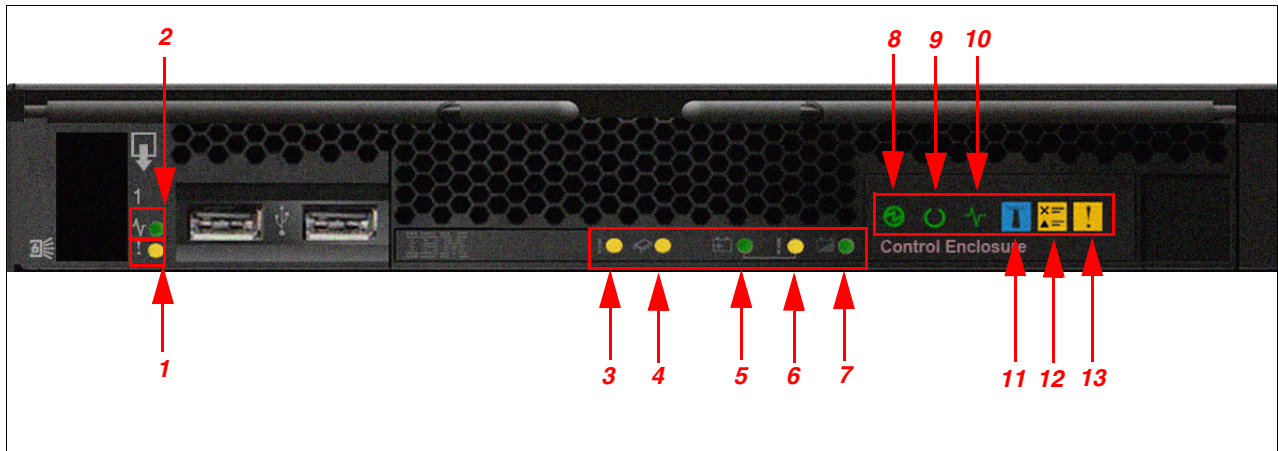

Figure 13-2 Node canister LED layout
IBM Flex System V7000 Storage Node has indicators or light-emitting diodes (LEDs) that provide the status of the various components to help you determine the system state as well as appropriate actions to take to resolve the issues. See Figure 13-2 for a description of the various LED states that you might observe.
1. Start by considering the state of the power LED **8**, as shown in Figure 13-2 and Table 13-2. Continue to troubleshoot the canister until the power LED is ON.
3. Verify that no faults are detected on the control enclosure after powering on. Use Table 13-2 on page 575 to verify the state of the LEDs on the control enclosure. See the *IBM Flex System V7000 Storage Node Troubleshooting, Recovery, and Maintenance Guide* PDF on the CD shipped with your system if problems are encountered. Figure 13-2 on page 574 shows the location of the LEDs on the front of the control enclosure.